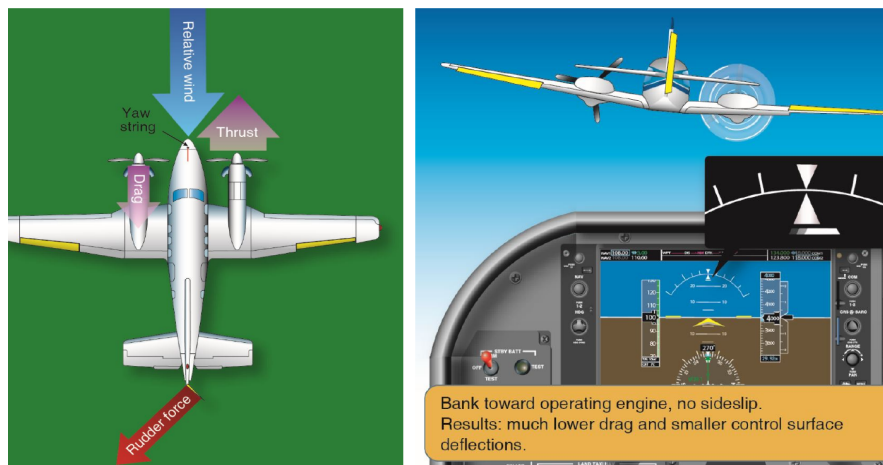

Figure 13-17. Zero sideslip engine-out flight.
AFH Fig 13-17 — Zero Sideslip Engine-Out Flight
- (10 min)** Zero sideslip: walk Fig 13-17; have student name bank/ball.